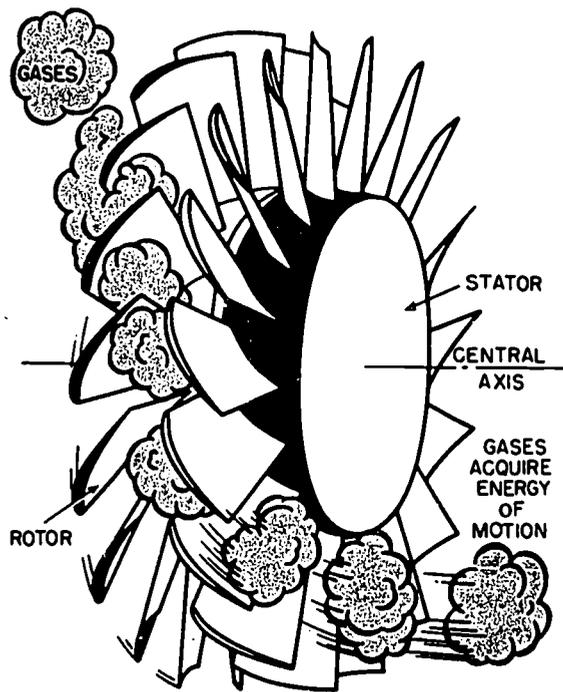

Figure 38. Single Stage Operation of the Axial Compressor.
*Axial flow engines.*—The axial flow compressor is also made up of rotors and stators. But the blades are shaped like airfoils instead of being flat. The rotor may be likened to a many-bladed propeller. Because of the airfoil shape of the rotor blades, the air mass moves toward the rear of the engine, and only slightly outward (Fig. 38).